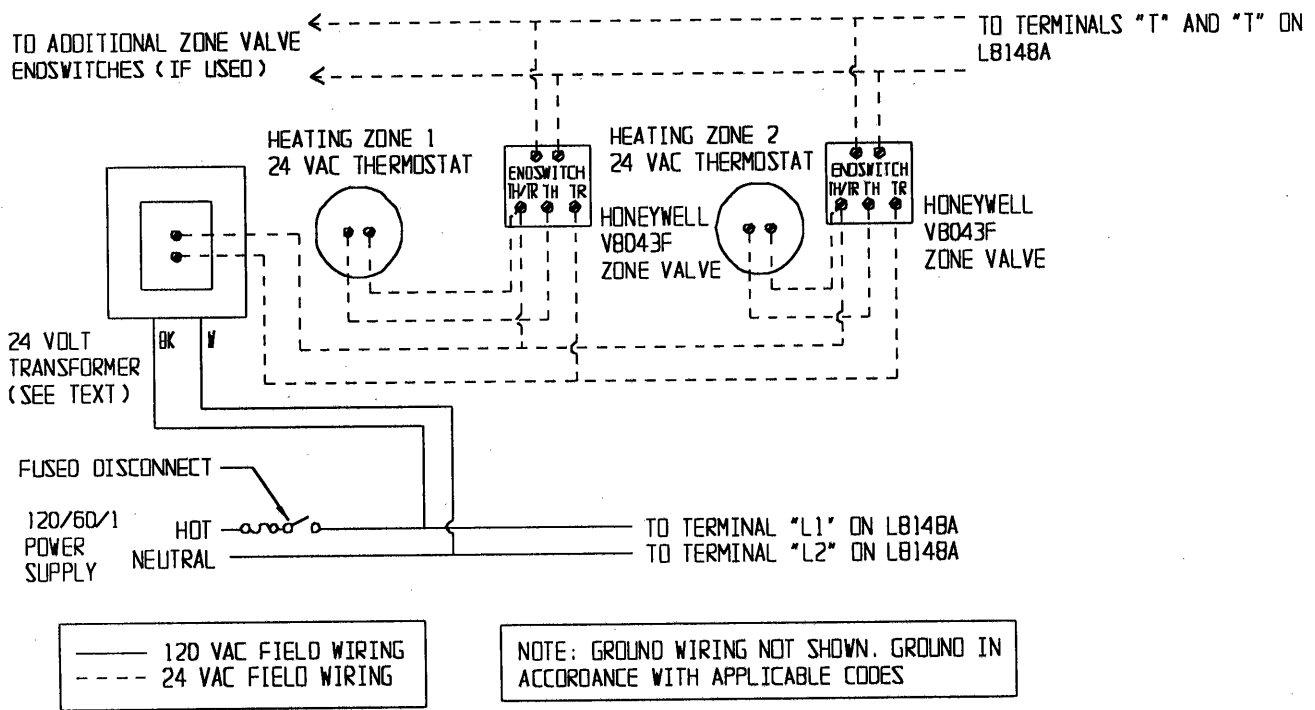

FIGURE 27: WIRING DIAGRAM, CIRCULATOR ZONE WIRING USING HONEYWELL R845A's (FACTORY BOILER WIRING NOT SHOWN - SEE FIGURE 24 OR 25)
- 2) Multiple Zones using Zone Valves - Figure 27 shows wiring for multiple zones using Honeywell V8043F zone valves. This wiring diagram may be used for other 24-volt zone valves as long as they are equipped with end switches. Do not attempt to use the transformer on the L8148A to power the zone valves; use a separate transformer. Up to five V8043Fs may be powered by one 48VA transformer, such as the Honeywell AT87A.